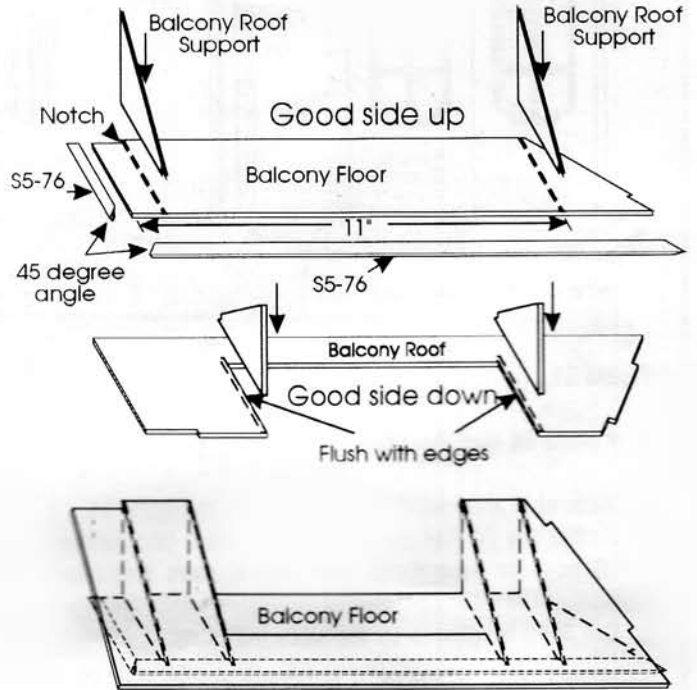

Figure 32
2. Cut and glue S5-76 to edges of Balcony Floor. Figure 32.
3. Install Balcony Roof Supports to the Good Side of the Balcony Floor and the bad side (underside) of Balcony Roof as shown in Figure 32.